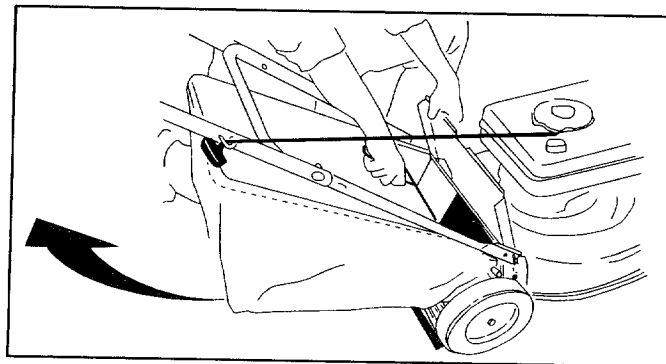

FIGURE 18
- Lift discharge door and pull grass bag up and away from the mower to dispose of the grass clippings. See Figure 18.